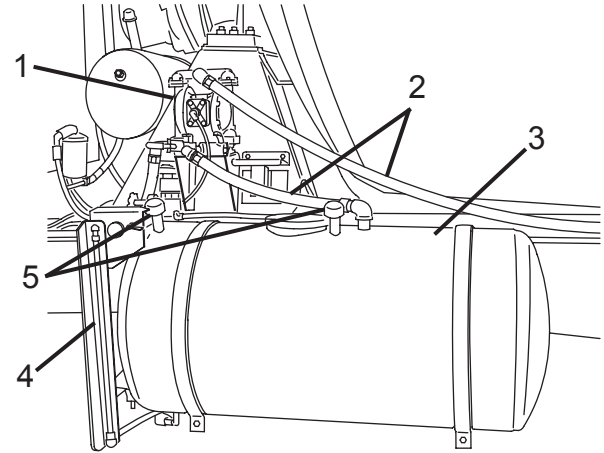

Figure 160
1. Inspect the water tank(s) (Figure 160, Item 3) for leaks, cracks, breaks, or structural damage.
2. Inspect hoses (Figure 160, Item 2) for leaks, cracks, or damage.
3. Inspect sight glass(es) (Figure 160, Item 4) for cracks or damage.
4. Check pump (Figure 160, Item 1) (if equipped) for proper operation.
5. Check breathers (Figure 160, Item 5) (if equipped) to make sure they are free of debris.